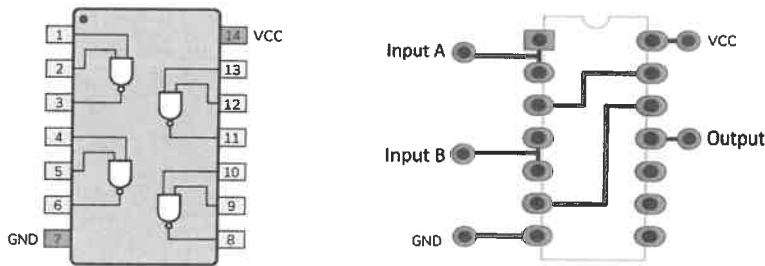

Figure 4: Integrated circuit chip and OR gate design.
Figure 4 is a design for a PCB which uses an integrated circuit chip to create an OR gate.
a) What is the integrated circuit chip in Figure 4 called?
d) Use the information in Figure 4 to complete the following circuit diagram.